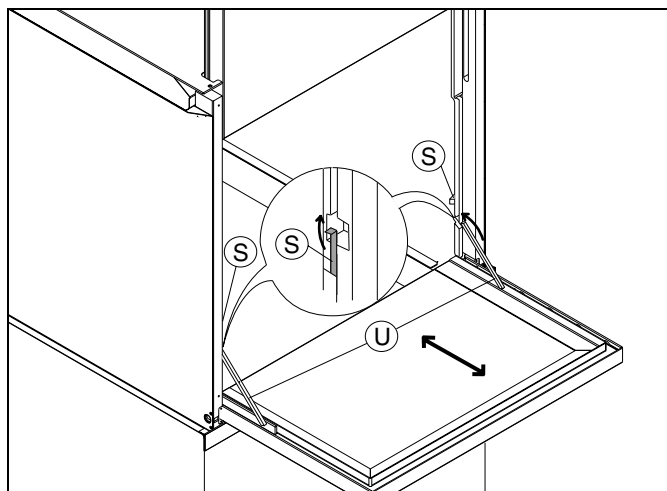

Figure 22
- Open the door for access to the tank (Figure 22):
- Replace the door (Figure 22):